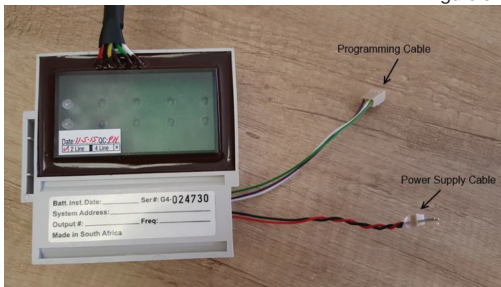

Figure 7
The Galcon G5 radio receiver module has two wire looms located in the battery compartment of the module as shown in Figure 7. The Green, White and Purple wire loom is used for programming the receiver module using the hand held programmer.
- Referring to Figure 7, extract the battery, battery cable and the programming cable out of the receiver modules battery compartment.